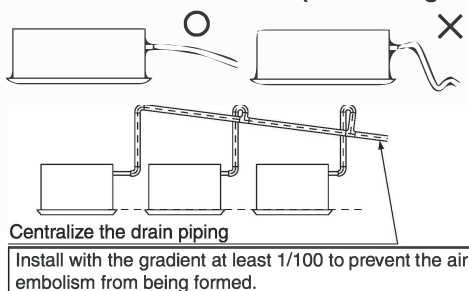

Figure 14
(1) Install the drain piping.
- To prevent the air embolism from being formed, shorten the drain piping as much as possible and slant it downward. The gradient should be 1/100 or more. (Refer to Figure 14)
- Do not twist or bend the drain hose ①, also do not apply excessive force. Failure to do so will result in water leakage.
- To use the converging drain piping, connect in accordance with Figure 14.
(2) Check if the drainage is proper after completing installation.